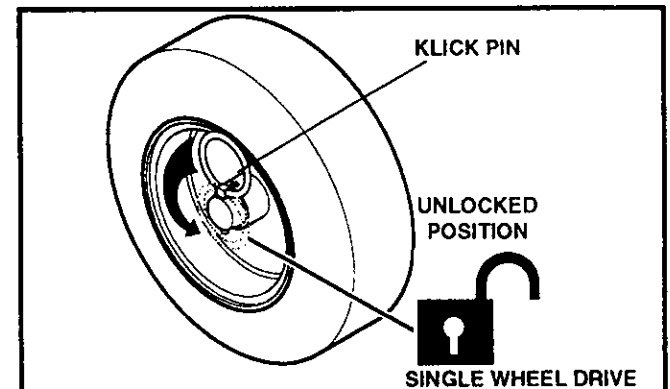

FIG. 5B
- For ease of maneuverability in light snow conditions, disconnect the klick pin from the wheel locked position and push into the single wheel drive (unlocked axle hole only) position (See FIG. 5B).